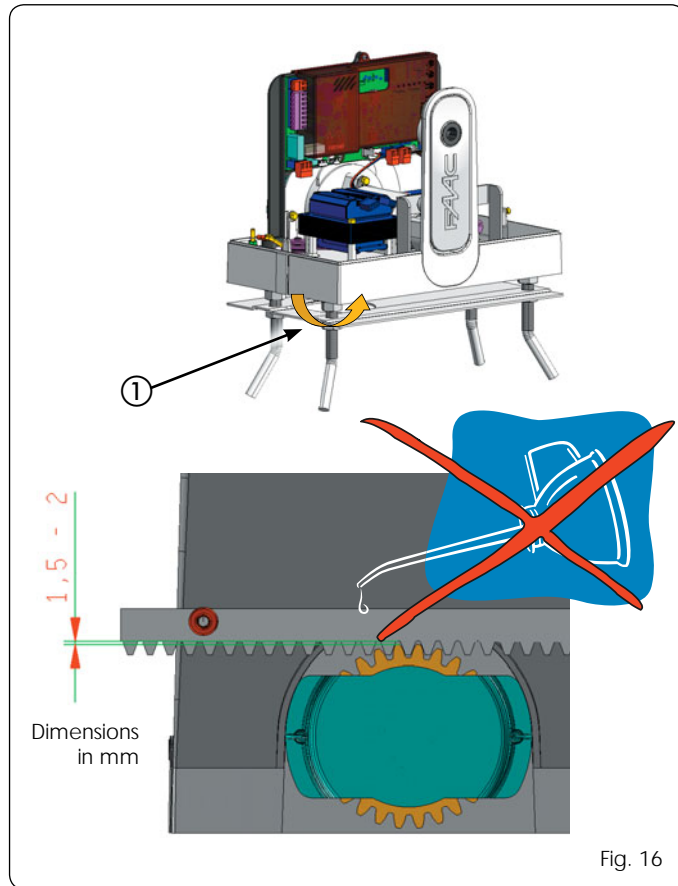

Fig. 16
-  *When the rack has been installed, to ensure it meshes correctly with the pinion, we advise you to lower the gearmotor position by about 1.5 - 2 mm by adjusting the nuts (Fig. 16 re. ①).*
-  *Do not use grease or other lubricants between rack and pinion (Fig. 16)*